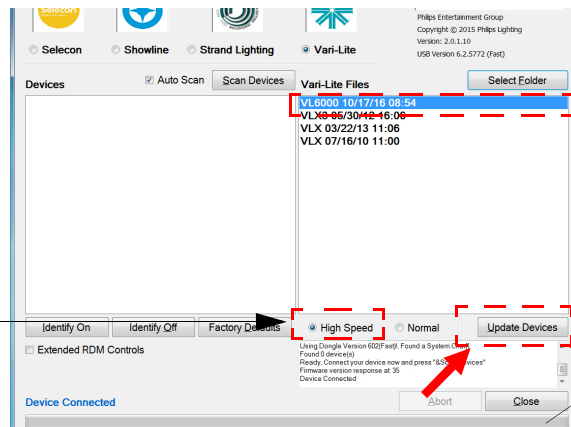

Figure 3-9: bin File Selection
- Step 7. Click on bin file for luminaire to be updated (for example, VL6000_101716.bin) as highlighted in Figure 3-9.
- Step 8. As indicated in Figure 3-9, click on Update Devices to start upload.